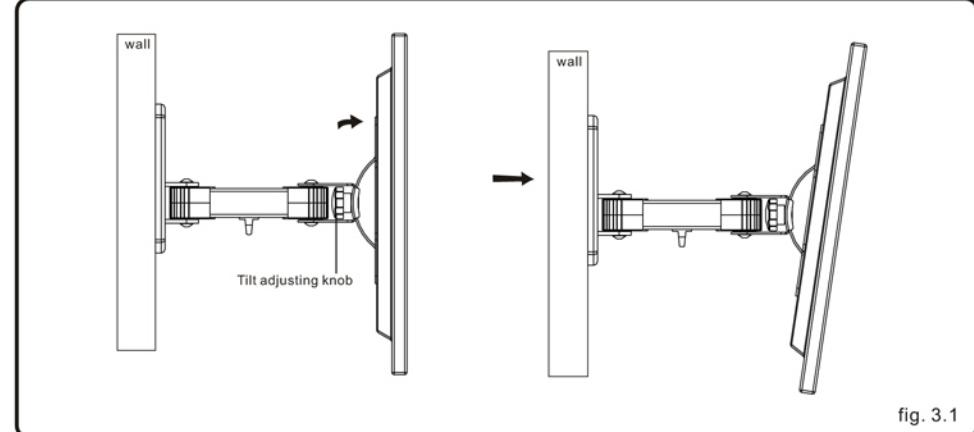

fig. 3.1
- Use the tilt adjusting knob to adjust your TV to the desired angle, the pitching angle can be adjusted between -20°~20°, as shown in fig 3.1.